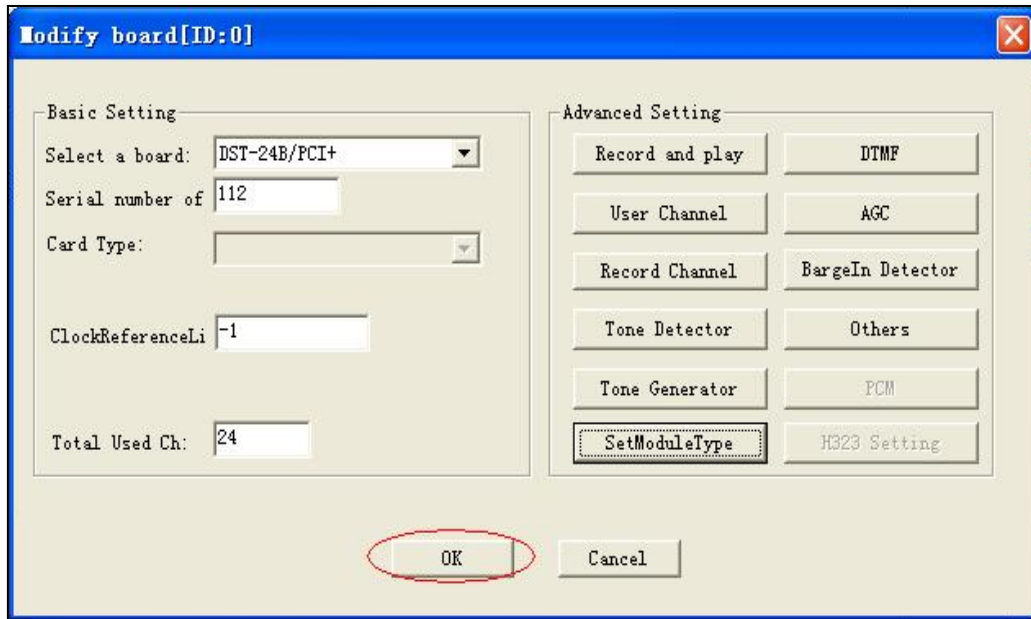

Figure 3-10
Step 8 : Then click the button 'OK' to exit the dialog 'Modify board' as shown in Figure 3-10.